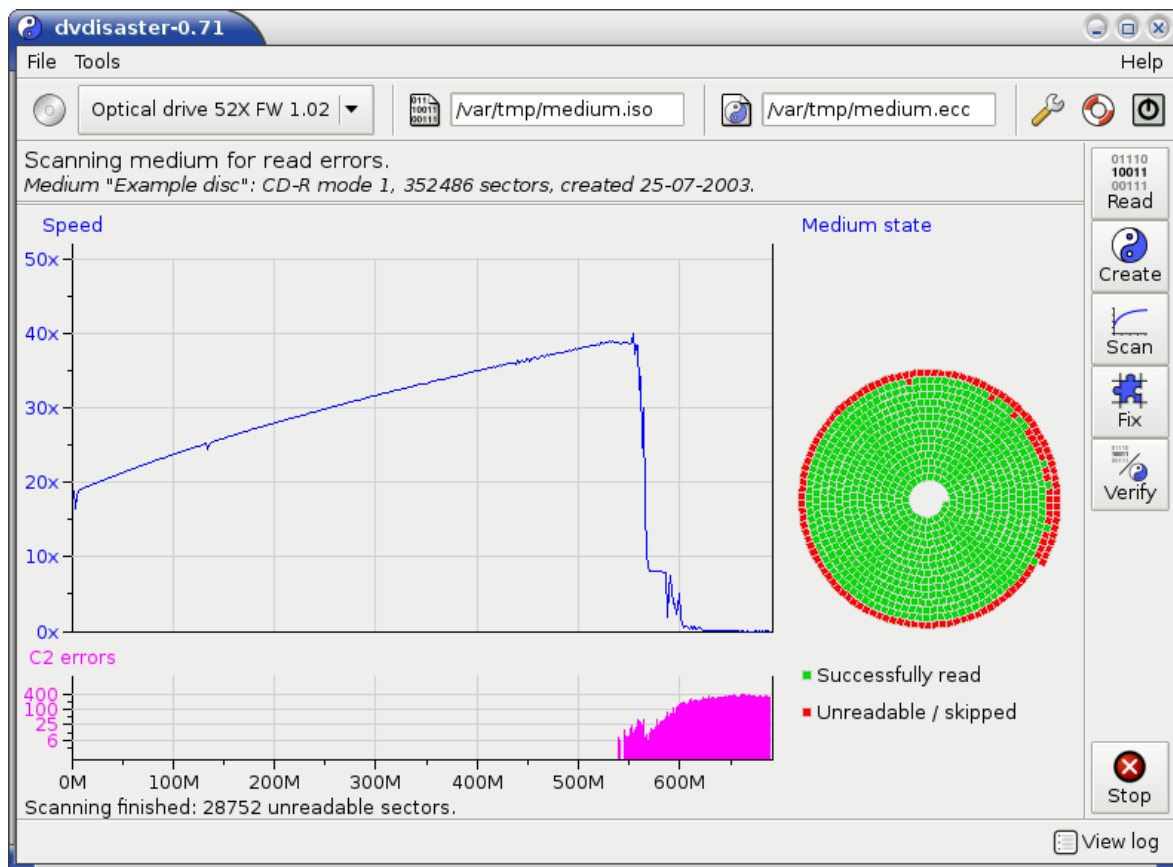

Figure 8: Scanning the medium.
**Overview.** dvd disaster provides several information about the scanning results (see fig. 8):